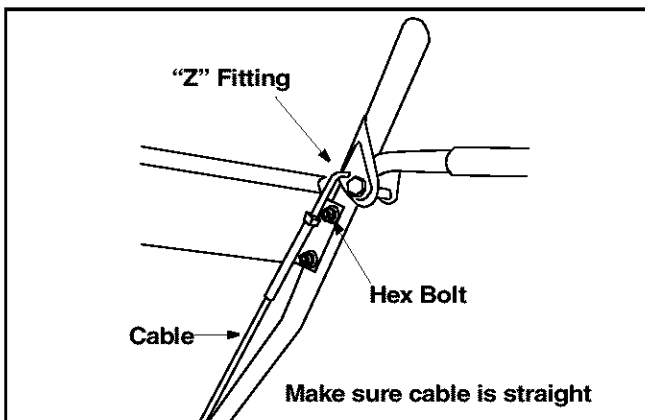

Figure 12
- Retighten the hex jam nut. See Figure 12.